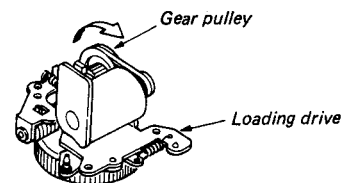

Fig. 1-3-27 Loading drive . FF mode
2. Remove the washer (A) and disconnect the pinch connector.
3. Remove the cam lever stopper and the washer (B), and remove the cam lever assembly upward.
4. Turn the gear pulley in direction shown by the arrow until it stops to set the FF/REW mode. (Fig. 1-3-27)
5. Remove the screws (A) and remove the loading drive assembly.
6. Remove the loading belt and the screws (B), and remove the motor.
9. Confirm timing of the phase gear, referring to the item 1-4-1.